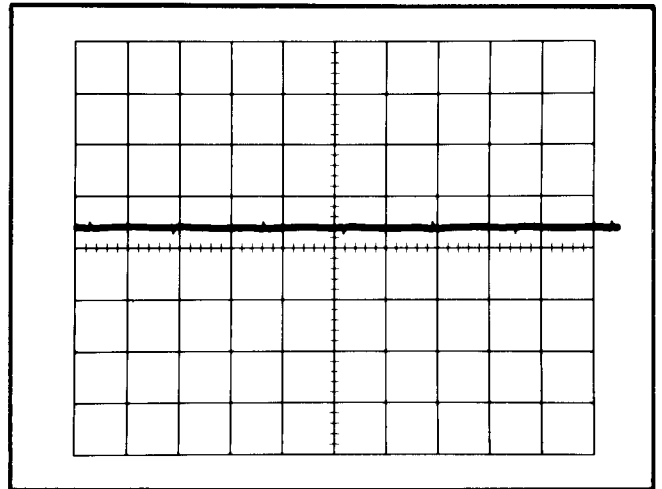

Fig. 2-3. Adjusting the DIFF BAL control to obtain a minimum amplitude display.
- d. Ignoring the positive- and negative-going spikes, adjust the DIFF BAL control (see Fig. 2-1) to eliminate any square-wave response; that is, to obtain a minimum amplitude display similar to the waveform shown in Fig. 2-3.